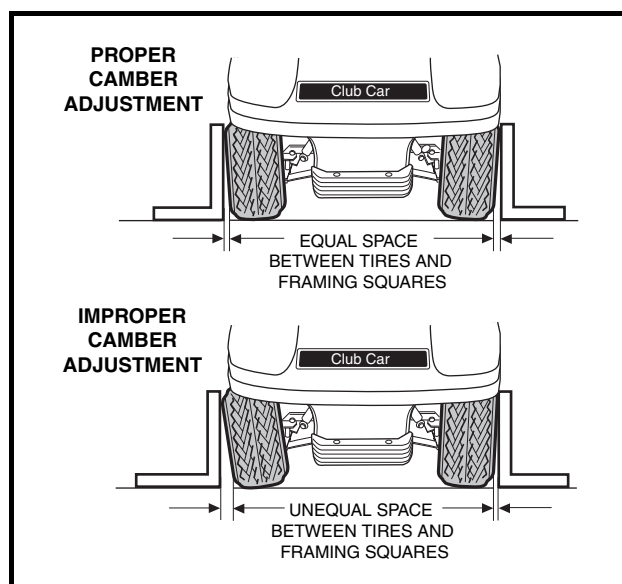

Figure 7-16 Check Camber
1. Check each front wheel with a framing square. At the floor (or ground), there should be an equal amount of space between each tire and the framing square (**Figure 7-16, Page 7-14**).
- After adjusting camber, tighten the four spring retaining bolts (30) (**Figure 7-22, Page 7-19**) to 23 ft-lb (31 N-m). Then roll the vehicle forward one full tire revolution and recheck the camber. **See also Figure 7-16, Page 7-14.**